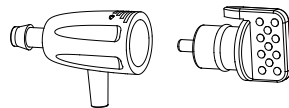

Figure 10
- 3) If there is no water come out of a dripper, check and clean all parts of the dripper as shown in **Figure 10**.